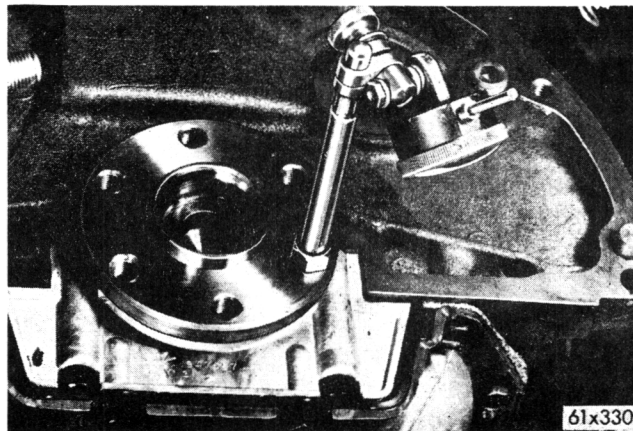

Fig. 1 – Dial indicator installation
- (1) Drain transmission oil pan.
- (2) Remove transmission and converter assembly (see respective *para.*)
- (3) Remove flexible drive plate.
- (4) Check the two dowels in rear face of cylinder block, making sure they extend at least 5/16" out of block. Drive plate damage will result if one or both dowels are missing, or if they are not positioned correctly.
- (5) Slide converter assembly out of transmission and remove the oil pan.
- (6) Loosen the front (kickdown) band adjusting screw and remove the apply servo and strut (on Models C and D).
- (7) Remove front pump housing retaining bolts.
- (8) Attach Tool E21C35D to pump housing flange (A-904 Models). Thread screws of tool into flange holes at 11 and 4 o'clock positions.
- (9) Bump outward evenly on the two knocker weights to withdraw oil pump and reaction shaft support assembly from case.
- (10) Carefully remove the front and rear clutch retainer assemblies and the kickdown band (to obtain access).
- (11) Install dial indicator on crankshaft flange (see Fig. 1). An indicator post can be made by cutting a 7/16"-20 T.P.I. thread on end of a rod approximately 5½" long.
- (12) Clean all foreign material from cylinder block flange face, also from transmission case flange face.
(1) Install converter and tighten bolts to 270 lbs. in. torque. Do not use lockwashers on drive plate to converter bolts.
(2) Attach dial indicator to engine block flange (*see Fig. 1*). Position dial indicator so dial plunger rests on converter hub (just ahead of pump drive slots).
(3) Rotate crankshaft with a wrench on bolt at front end of crankshaft, and check converter hub runout. Do not rotate converter by hand or with a